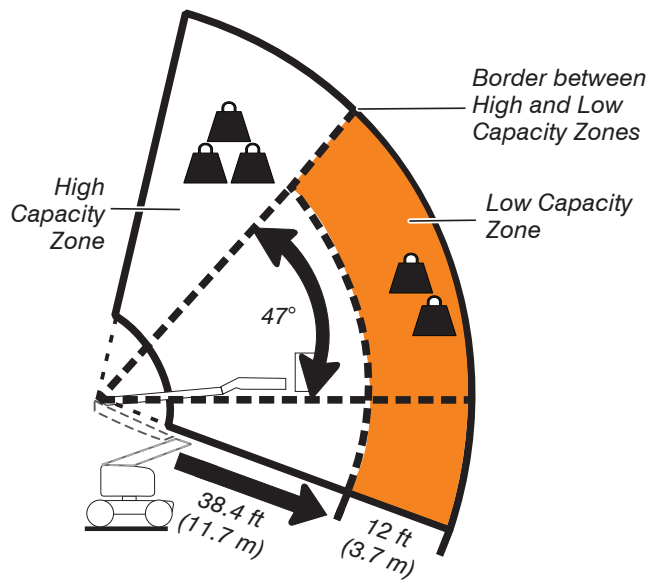
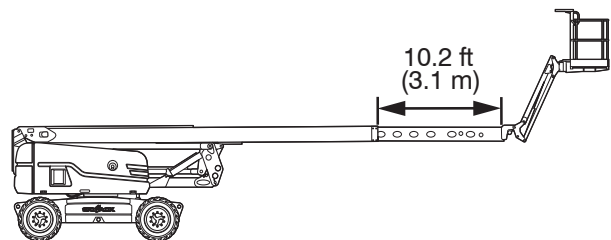

Figure 11 High and Low Capacity Zones
Figure 12 Fly Boom Extension into Low Capacity Zone
*Movement into the Low Capacity Zone occurs when the boom is either lowered or extended into a position where it is raised less than 47 degrees and extended 10.2 ft (3.1 m) (refer to Figure 11 and Figure 12). There are approximately 5 1/2 cutouts visible on the fly boom when extended 10.2 ft (3.1 m) .*